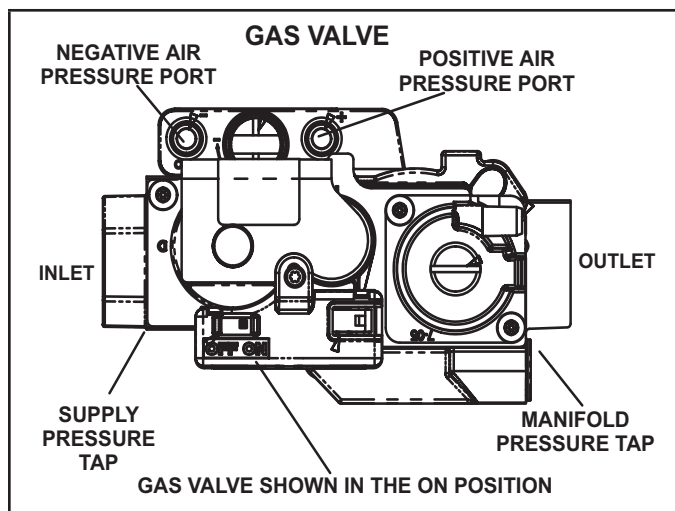

FIGURE 47
Gas Valve Operation (FIGURE 47)
- 6 - Move the gas valve switch to the OFF position. See FIGURE 47.
- 8 - Move gas valve switch to the ON position. See FIGURE 47. Do not force.